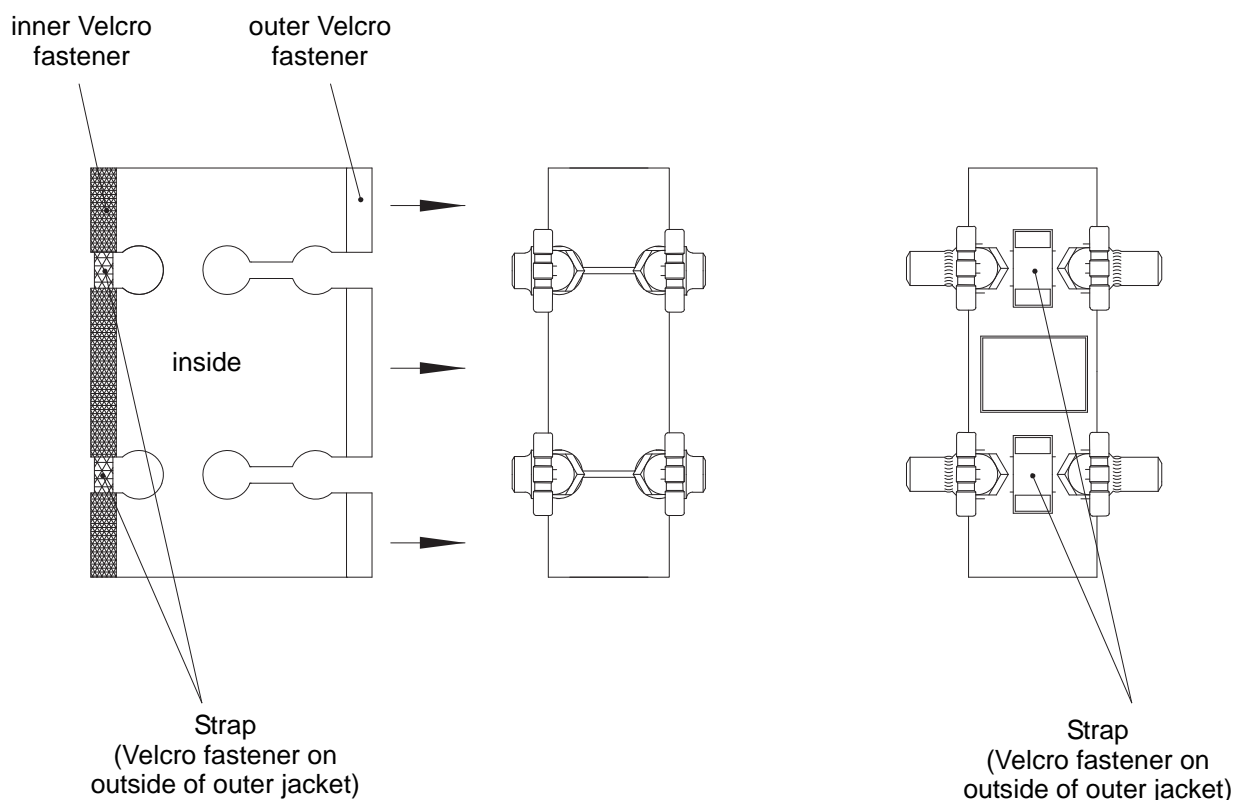

Fig. 7: Outer jacket
- Push outer jacket (Fig. 7) between carrier structure and CODI® fitted with base insulation.